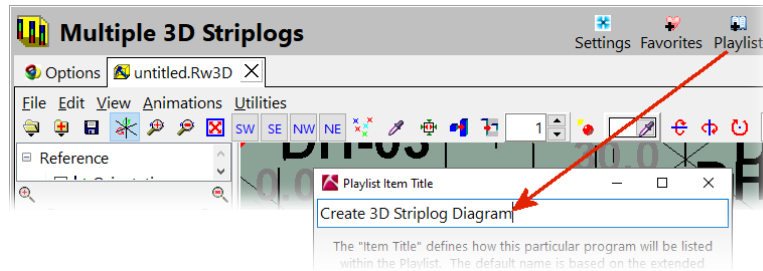

Figure 65
- Add this step to the *Playlist* by clicking on the *Playlist* button within the upper-right corner of the *Multiple 3D Striplogs* menu (Figure 65) and specifying “Create 3D Striplog Diagram”.